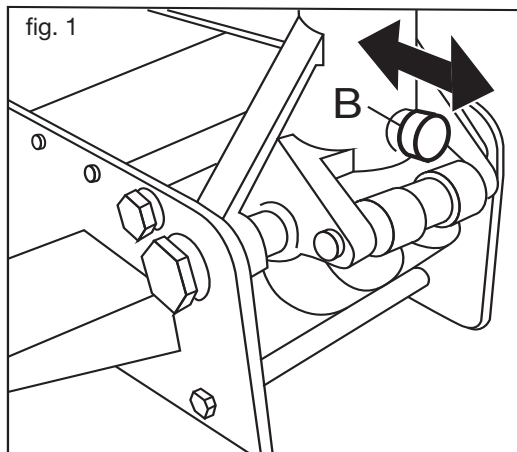

fig. 1
3. Undo the screw (fig. 1 B) in the handle socket, until it no longer protrudes into the handle socket.
5. Ensure that the handle is correctly inserted into the socket, then tighten the handle socket screw (fig. 1 B). **Pull up on the handle to make sure that the tip of the bolt has seated inside the groove near the bottom of the handle. If the bolt is seated properly, the handle will not pull out of the socket. Also make sure that the handle can be turned smoothly and easily once the handle socket screw has been tightened.**